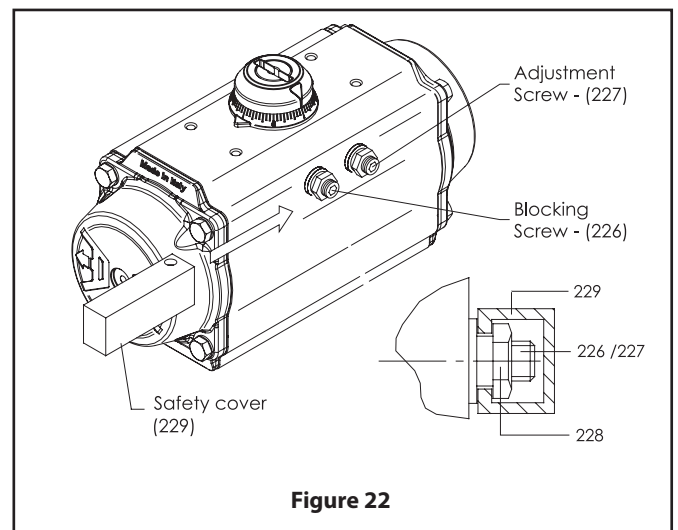

Figure 22
- A. Insert the Safety Cover (229) between the Special Nuts (228) and Washer (03) as shown in **(Figure 22)**.
- B. Then insert in the hole of the Safety Cover the Padlock (230) and lock it.
6. Declutchable Manual Override (DO)